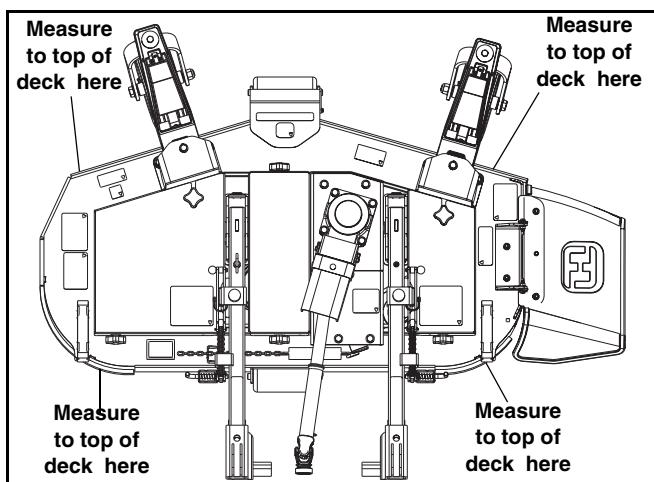
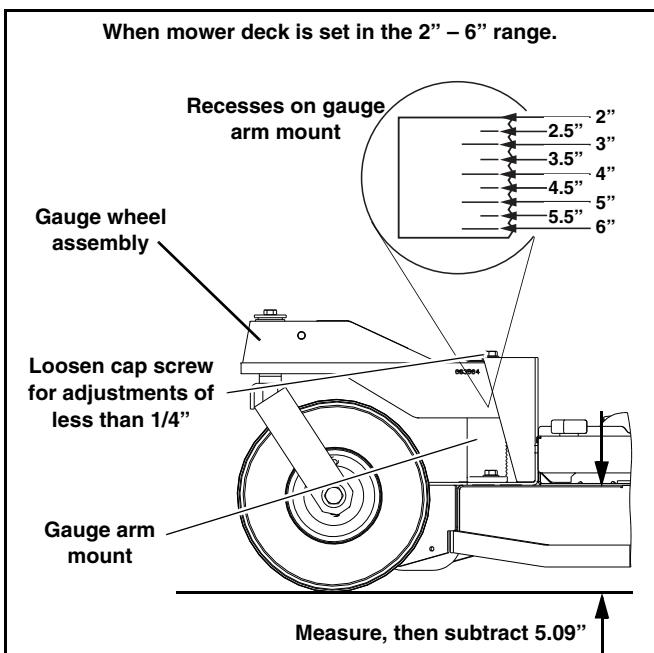

Fig. 3-6
Fig. 3-7
6. Measure from the level surface to the top of the deck. Fig. 3-6
The top of the deck is 5.09" higher than the actual cutting height. Take the measurements at each of the areas shown (Fig. 3-6) and subtract 5.09" from them. That will give the actual cutting height for that location.
NOTE: Minor leveling can be accomplished by moving the 1/2" cap screw on **either** front gauge arm mount forward in the slot, to raise cutting height, or backwards to lower cutting height. Fig. 3-7
For a quick check of height adjustments: Measure from level surface to top of mower deck (as indicated in Fig. 3-7) and subtract 5.09 inches. The balance will be blade height. To be sure mower deck is level, measure at front and back on both left and right side of deck. Fig. 3-6
NOTE: 2" – 6" cutting height range: Recesses on side of gauge arm mounts visually indicate cutting height in 1/2" increments. Each notch between recesses represents a 1/4" adjustment. When the bottom (lowest) recess is just visible over top of gauge wheel assembly, cutting height is set at 6", when the mower deck is set in the 2" – 6" range (see Fig. 3-7). Next mark up indicates 5-1/2", then 5" and so forth. Top mark indicates 2". Move gauge wheel assemblies all the way to top of arms for 2" cutting height.